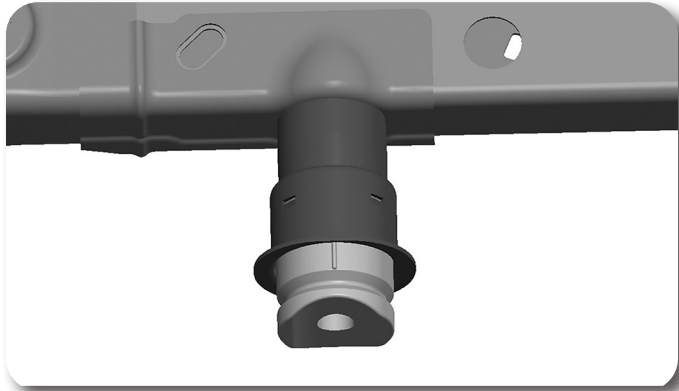

Figure 7
10. Install the provided 3in bump stop extension between the frame and the factory bump stop cup and fasten with the provided 10mm x 110mm socket head cap screws and washers. Hold the bump stop extension so it remains centered on the cup as the bolt is tightened. **Figure 7** Torque hardware to 35 ft-lbs.